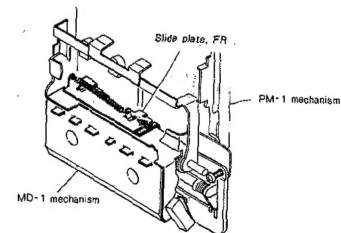

Fig. 23
- 2) After pressing the slide plate (FR) in the direction of the arrow, secure the mechanism assembly screws. (See figure 23)